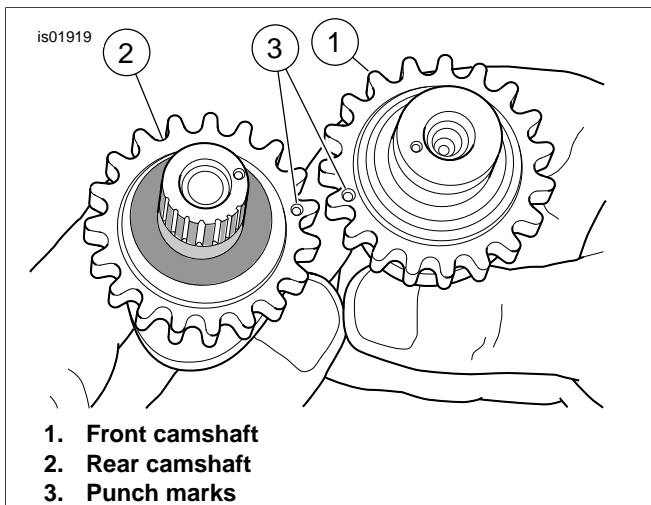

Figure 5. Align Punch Marks on Teeth of Camshaft Sprockets
7. See Figure 5. Align the punch marks on the teeth of the secondary cam sprockets (outboard faces). Use a colored marker to carefully mark the punch-mark locations on the inboard side of the sprocket teeth. These marks help align the camshafts when they are pressed into the bearings.